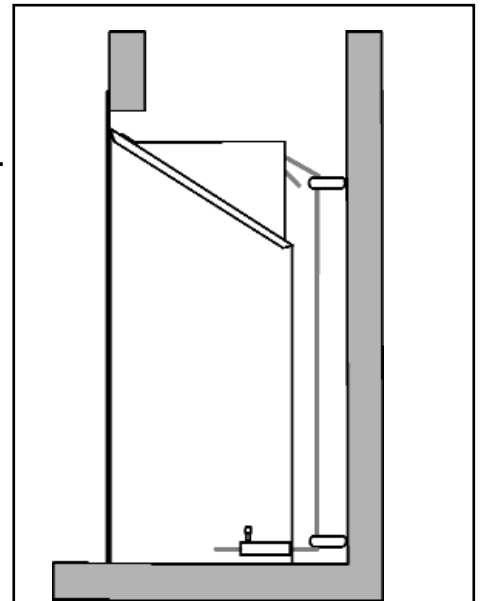

Figure 19. Cable route
10. Thread the cables through the eyebolts. Return the cables through the holes near the bottom of the convection box back panel (See figure 19).